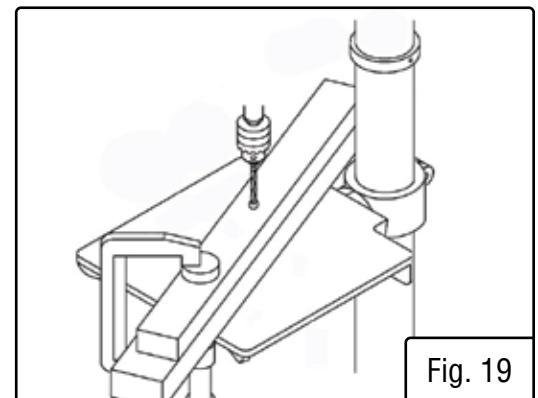

Fig. 19
**⚠ WARNING!** To prevent the workpiece and the backup material from slipping from your hand while drilling, position the workpiece and backup material to the left side of the column. If the workpiece and the backup material are not long enough to reach the column, clamp the workpiece and back material to the table. Failure to do this could result in personal injury. (Fig. 19)